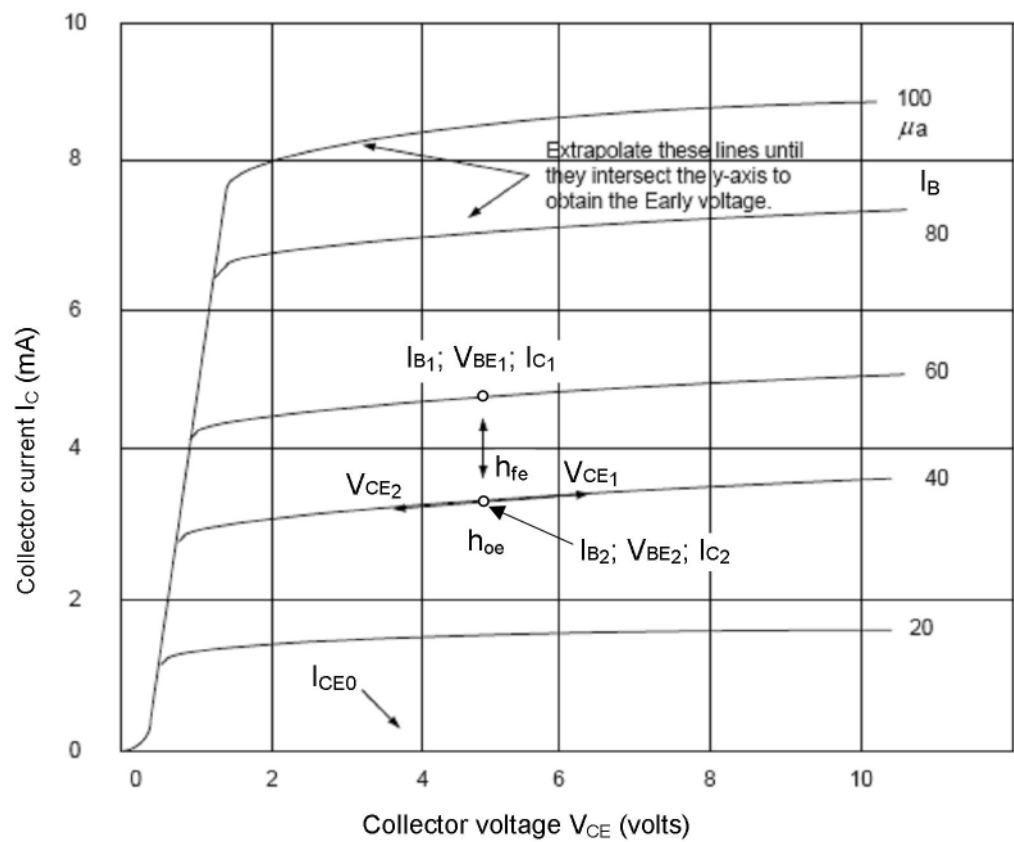
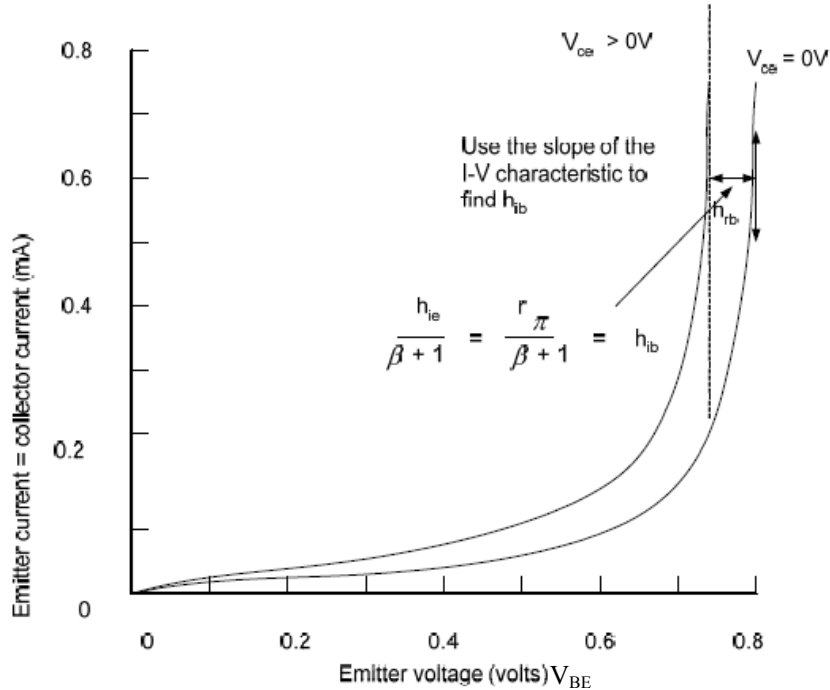

Figure 5.3: Bipolar transistor output characteristics
Figure 5.7: Transistor input characteristics
These terms are defined in Figure 5.3 and Figure 5.7 as the slopes of the characteristics or the spacing between the characteristic curves.
- Make a copy of the characteristic curves by hand. Your curves should be similar to those shown in Figure 5.3, which is a good representation of the output characteristics in the active region.
The type of characteristic that should appear on the screen is the one characteristic shown in Figure 5.7 and labeled as $V_{CE} = 0V$.